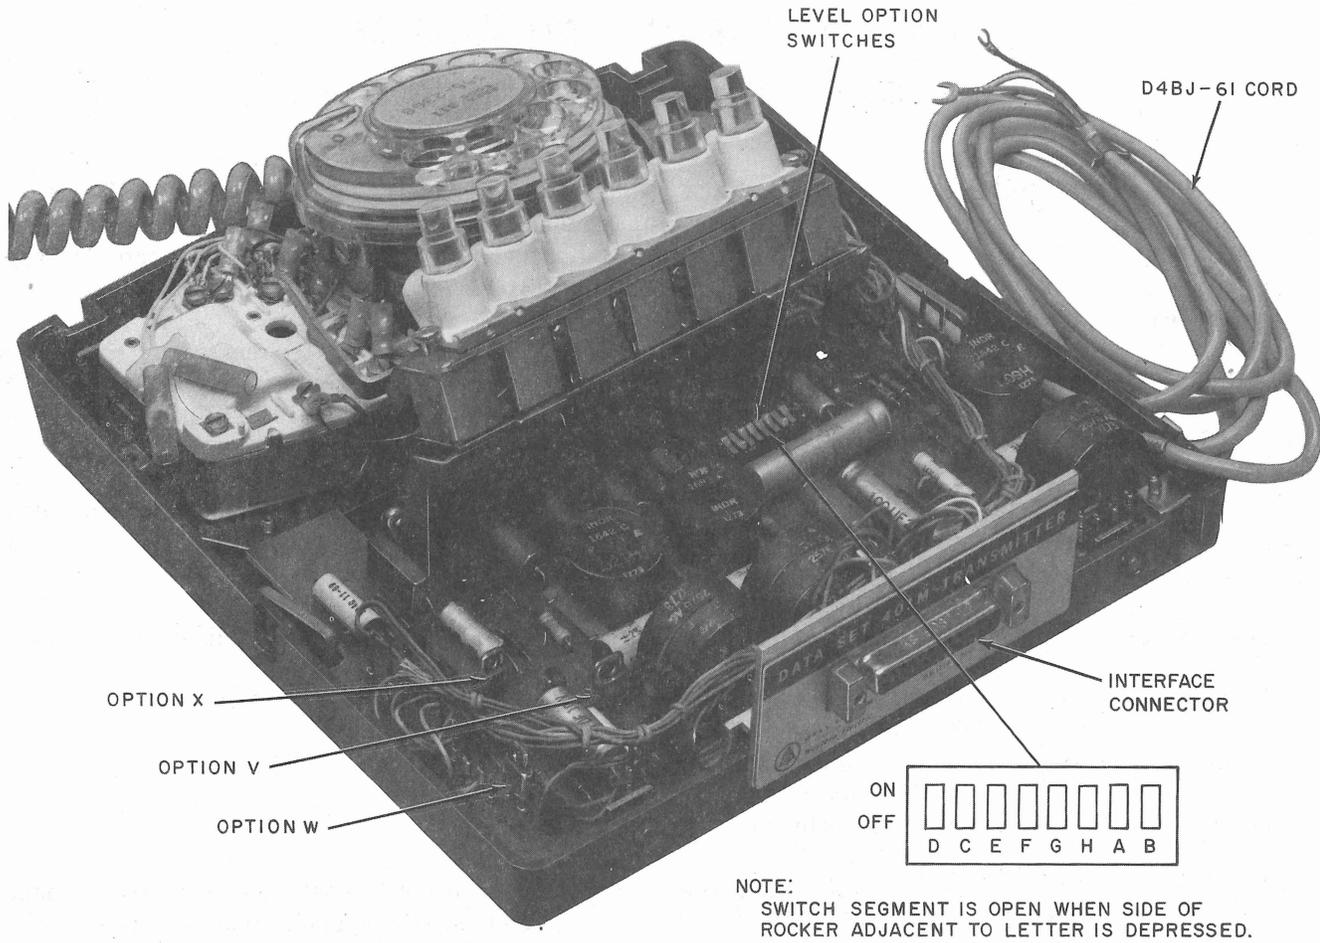

Fig. 1—Data Set 401M-L1B—Option Locations
2.01 Options for data set 401M-type vary depending on the required application. Customer options V, W, and X for data set 401M-L1B are made by means of small 2-pronged plugs which fit into lettered jacks located on the data set. Telephone company (telco) level options are made by means of an 8-segment switch (Fig. 1). Level options for older sets are incorporated by means of screw switches. Installation of options on DS 401M-type is made in accordance with specifications on the service order or circuit layout record card.
2.02 Location of option switches and option plugs are shown in Fig. 1. Refer to Table A for option information for data set 401M-L1B.
- Rocker switches are provided on DS 401M-L1B as shown in Fig. 1 to adjust the output power level.